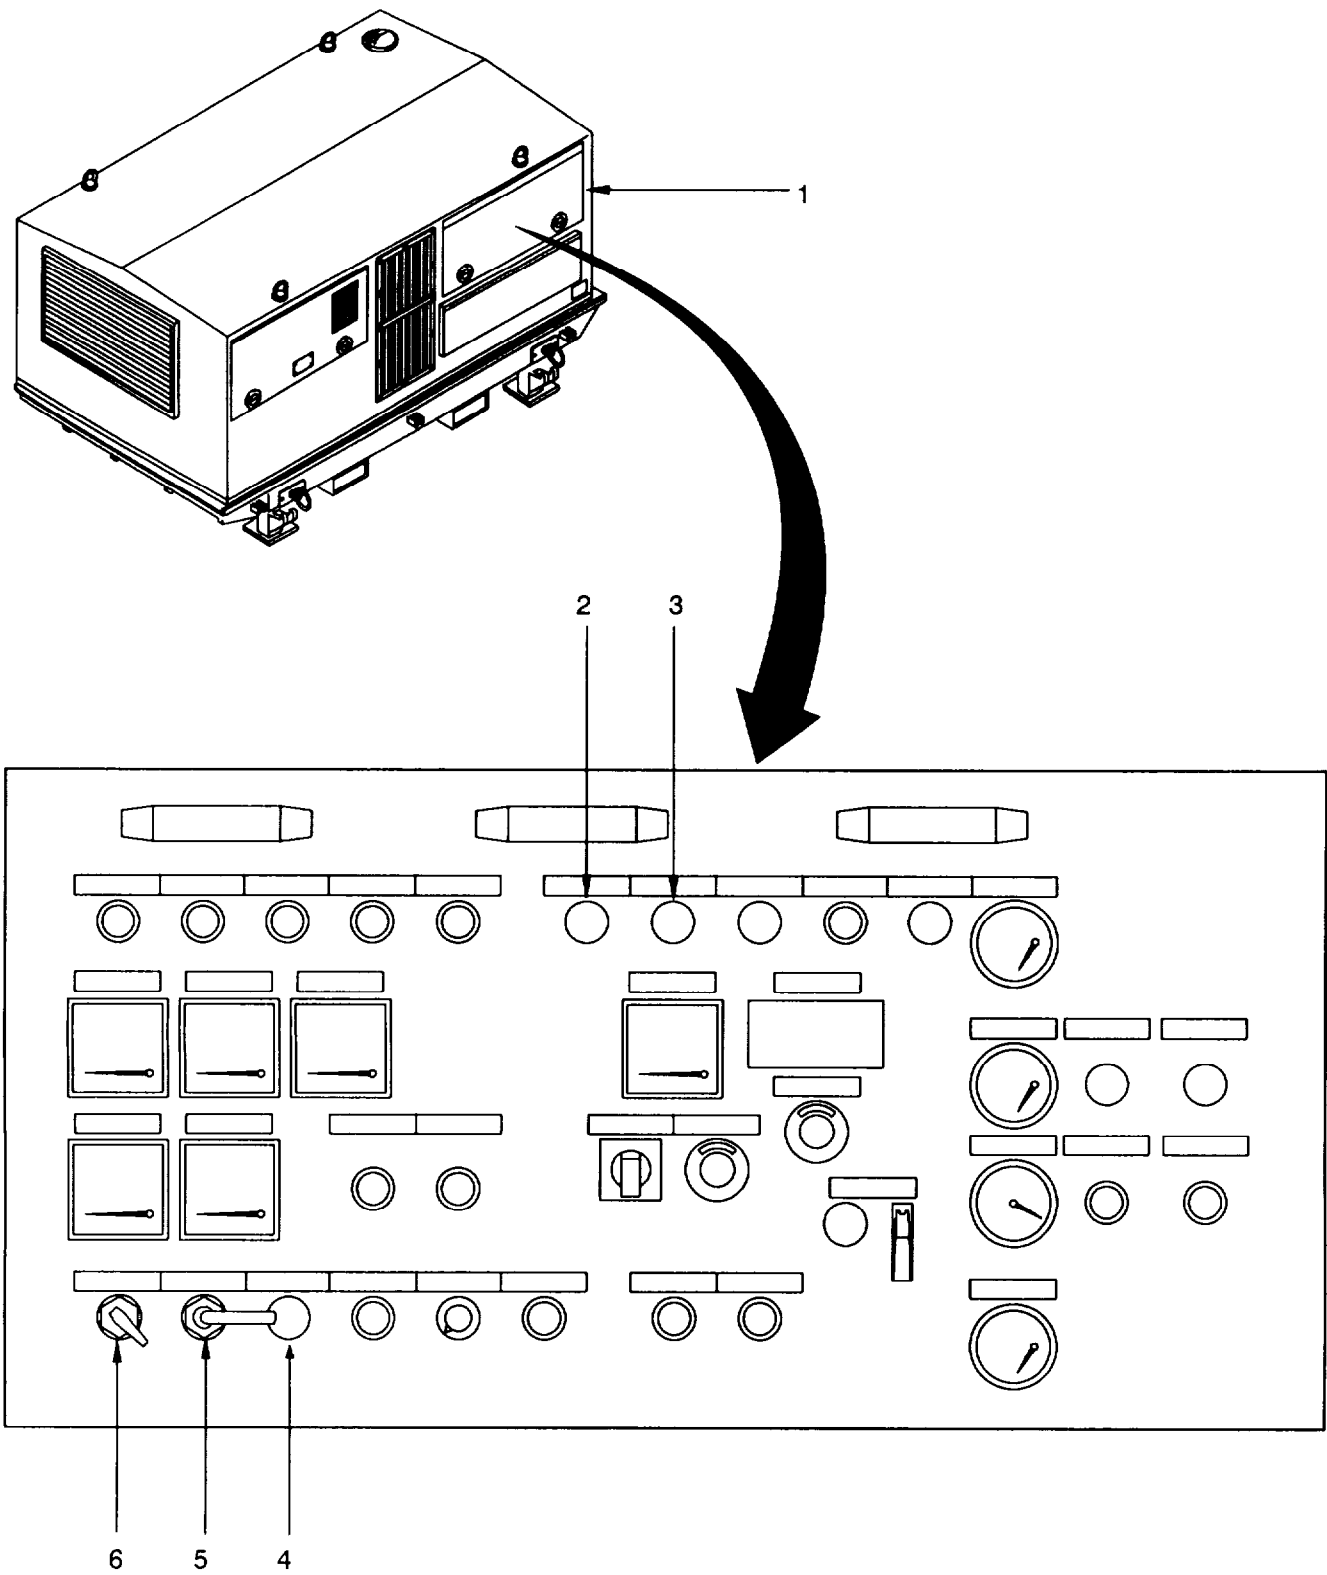

Figure 2-25 Operating the Flame Glowplug System.
- b. Open flap (1, figure 2-25): control cabinet assembly controls and indicators are accessible.